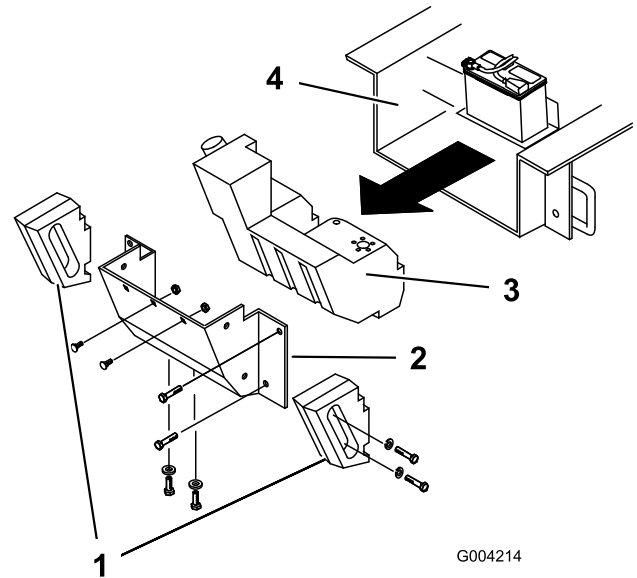

Figure 56
Over time, the chassis under the engine collects dirt and debris that must be removed. Using a flashlight, open the hood and inspect the area under the engine on a regular basis. When the debris is 1 to 2 inches deep, complete the following procedure (refer to Figure 56 throughout this procedure):
4. Remove the bolts, washers, and lock washers securing the two side weights, removing the weights (Figure 56).
7. Remove the six nuts and bolts securing the rear panel, removing the panel (Figure 56).
10. Slide the fuel tank to the rear (Figure 56).
21. Replace the rear panel and secure it with the six bolts and nuts removed previously (Figure 56).
23. Install the side weights with the bolts, washers, and lock washers removed previously (Figure 56).
16. Slide the fuel tank part way into the chassis (Figure 56).